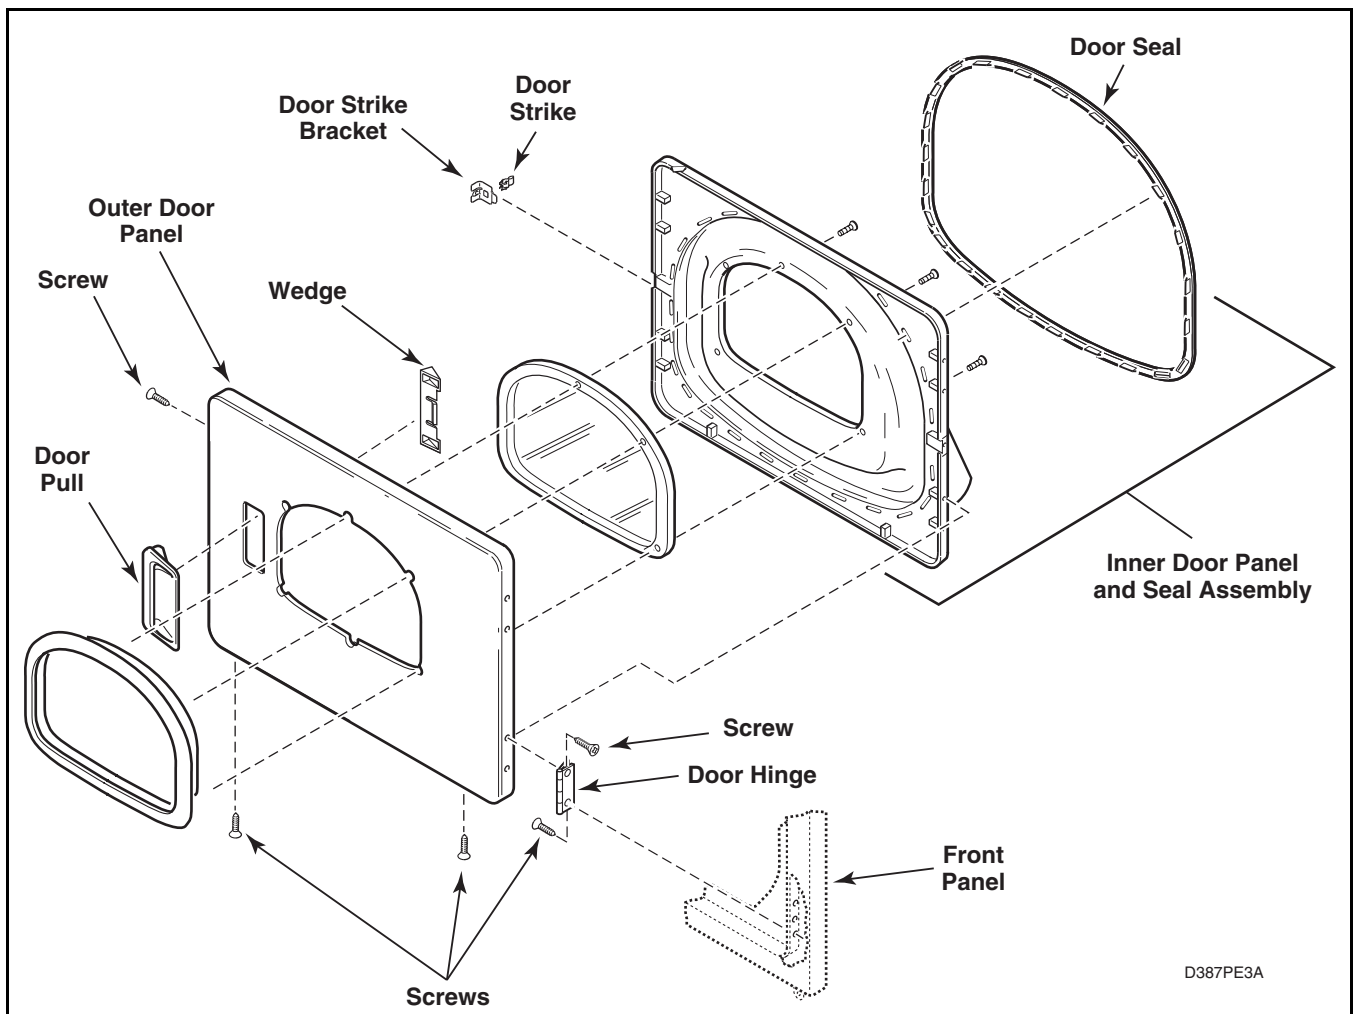

Figure 32
- b. Remove remaining screws around the door assembly and separate panels. Refer to *Figure 32*.
- c. Remove wedge (located behind door pull) by carefully prying up on center of wedge. Refer to *Figure 32*.
d. Remove door pull. Refer to *Figure 32*.
- b. Remove screw holding door strike and bracket to loading door and remove strike and bracket. Refer to *Figure 32*.